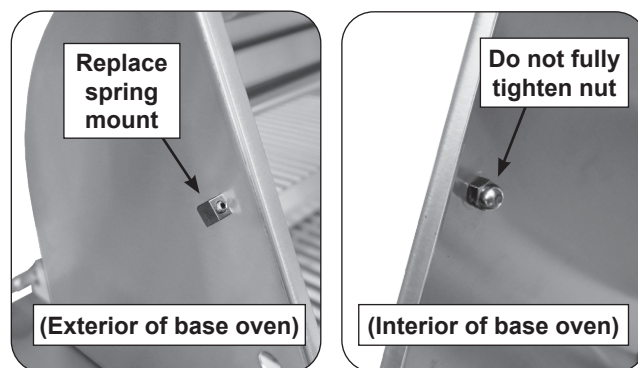

Fig. 2-2 Replace spring mount (on base oven)
6. **BASE OVEN SIDE WALL:** remove the old spring mounting hardware, then replace with the new mounting hardware. Do not fully tighten. Leave slightly loosened to allow some play for the next step. See Fig. 2-2.
9. Fully tighten the spring mount(s) from inside the base oven. Reference Fig. 2-2.